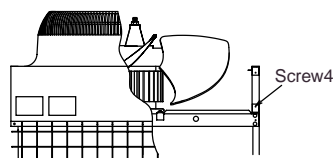

Fig.6 Front View
G. Remove the screw4 from both sides of the side panel and replace the side panel with the supplied reinforcing plates. referring to Fig.6. (Other than PUHN type)